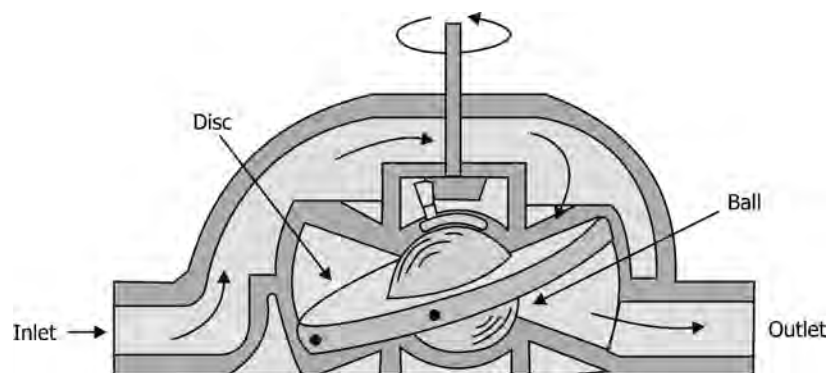

FIGURE 4.31 Nutating disk positive displacement flow meter.
- Figure 4.31 illustrates nutating disk flow meter.